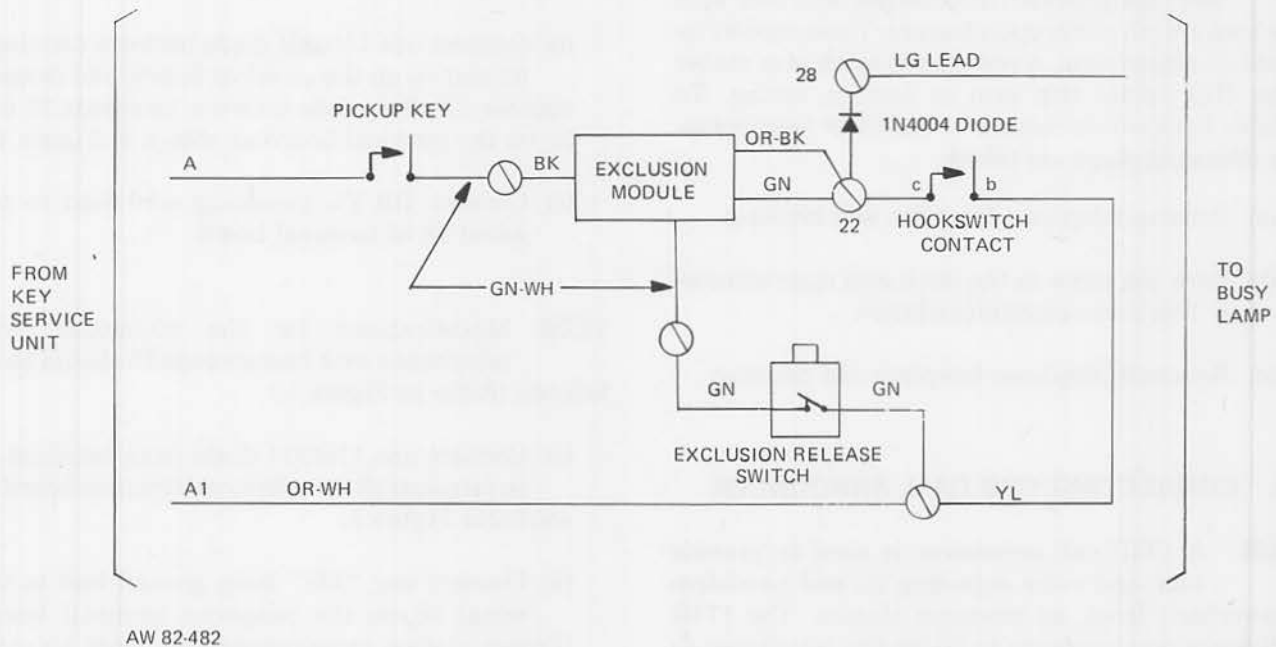

Figure 5: Busy Lamp Connections For 20-Button Telephones with Feature Code 76
11.02 Modifications for the 20-button desk telephones with feature code 76 should be as follows: (Refer to Figure 5.)
- (a) Connect one 1N4004 diode from terminal 22 to terminal 28 on telephone terminal board as shown in Figure 5.